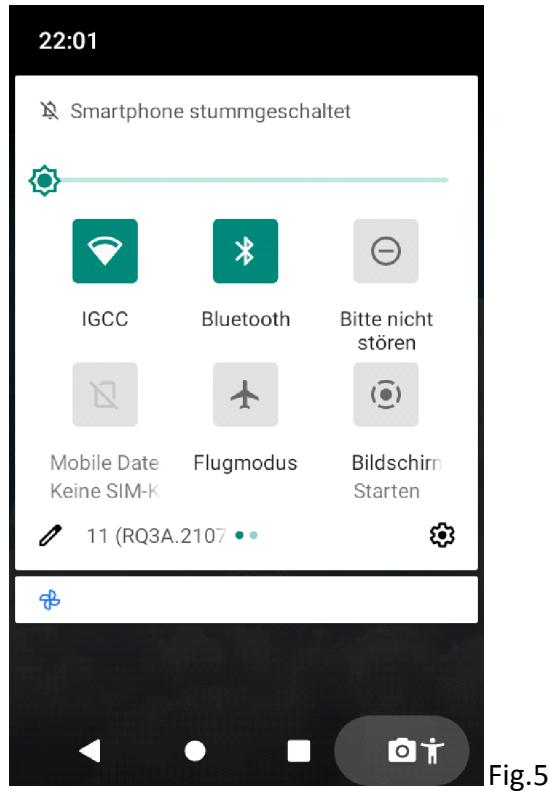

Fig.5
2. Swipe twice from the top edge of the screen to open the expanded Quick Access Menu. There is also a slider for brightness control on the top. (Fig.5)
The quick access panel(Fig.5) Among other things, the display brightness can be set here.